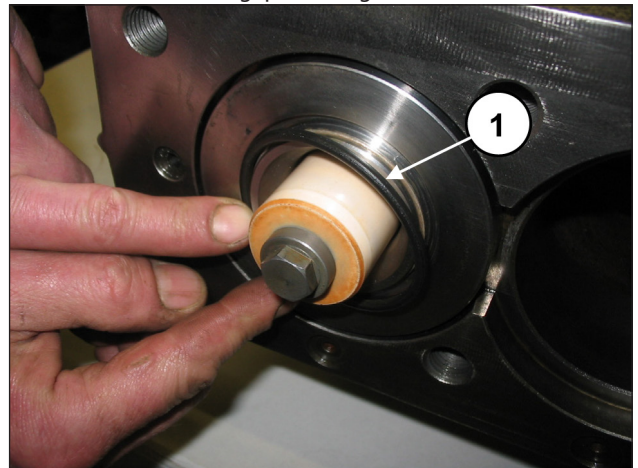
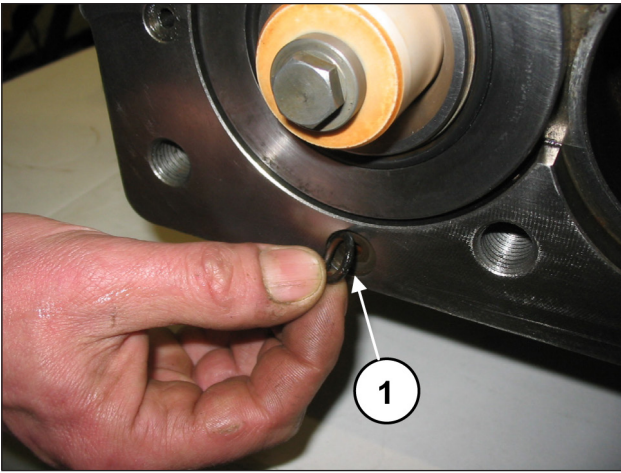

Fig. 161
Fig. 162
Install the front O-ring in the liner (pos. ①, Fig. 161) and the recirculation hole O-ring (pos. ①, Fig. 162).